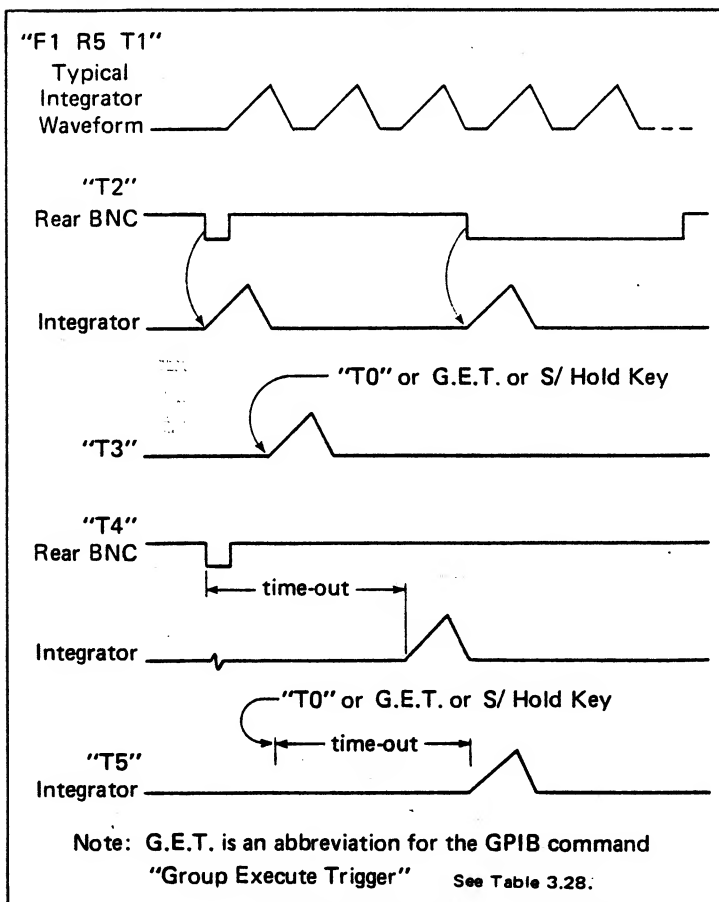

Figure 3.14 - Model 6000 DMM Trigger Command Timing
3.4.11.2.1 When the T1 command is transmitted, the instrument triggers itself continuously. This is shown at the top of Figure 3.14, where the program string "F1R5T1" causes multiple integrate cycles in the DMM's A/D converter.
When the T2 command is transmitted to the DMM, the instrument must be triggered by an external logic signal inputted through a BNC connector on the rear panel of the instrument. The rear BNC trigger input pulse and the resulting integrator waveform are shown in Figure 3.14.